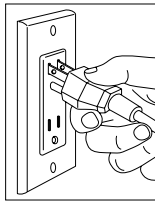

Figure 1
1. Plug-in the sander's AC power cord to the power source (110V a.c. output). The warning "beep" sounds would be occurred after the plug is securely plug-in to the power source and the LED indicator shows "Solid Red" color at the moment. - see figure 1.